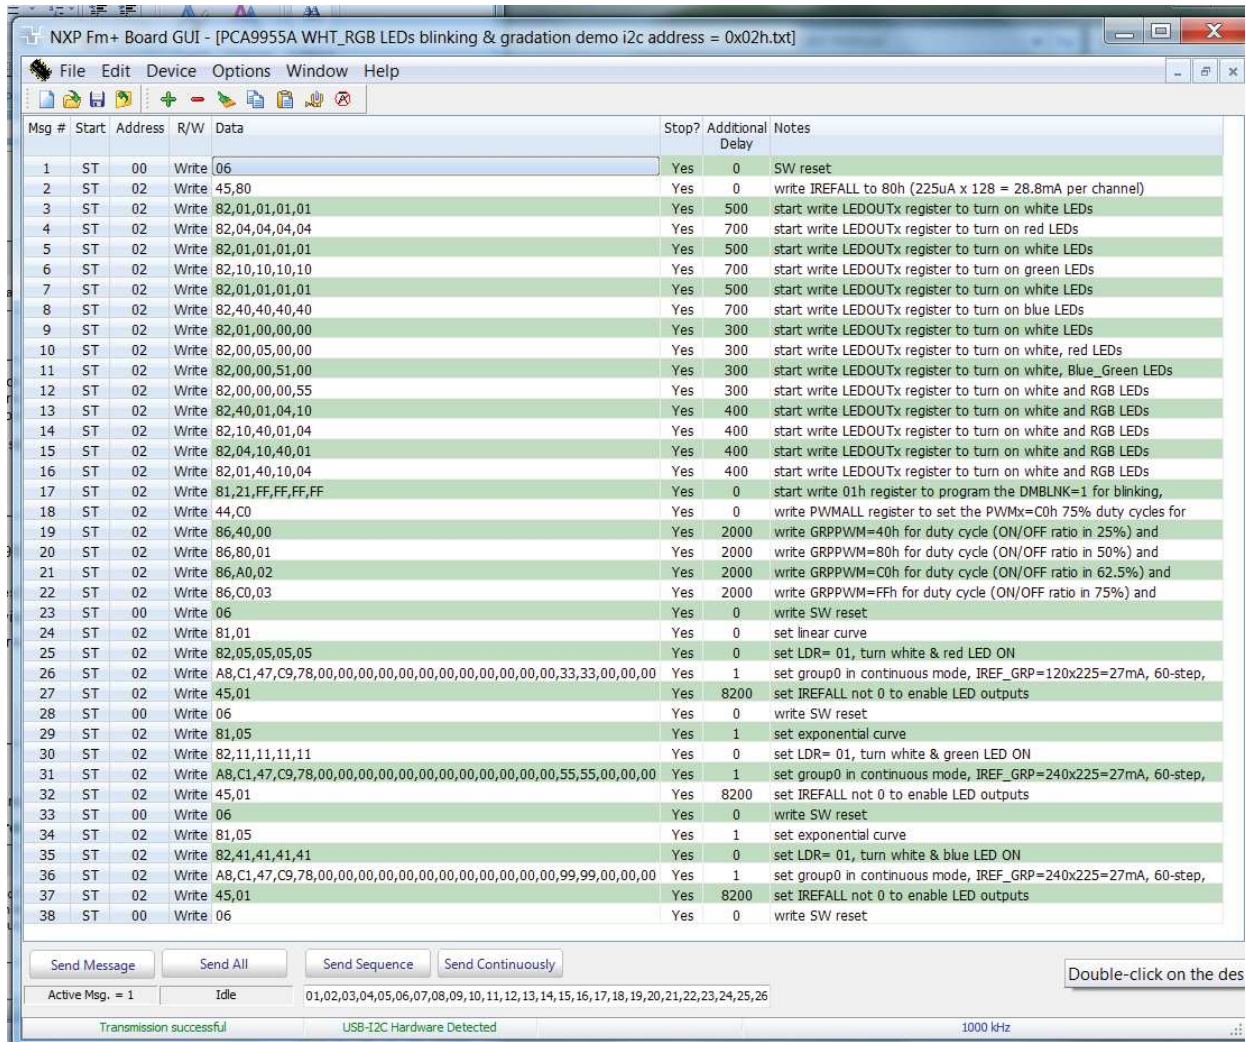

Fig 11. Message data in Expert mode to demo all White and RGB LEDs for blinking and gradation
3. After opening the 'PCA9955A/B WHT\_RGB LEDs blinking & gradation demo i2c address = 0x02h' text file, the 'NXP Fm+ Board GUI' in Expert mode screen is displayed as shown in Figure 11.